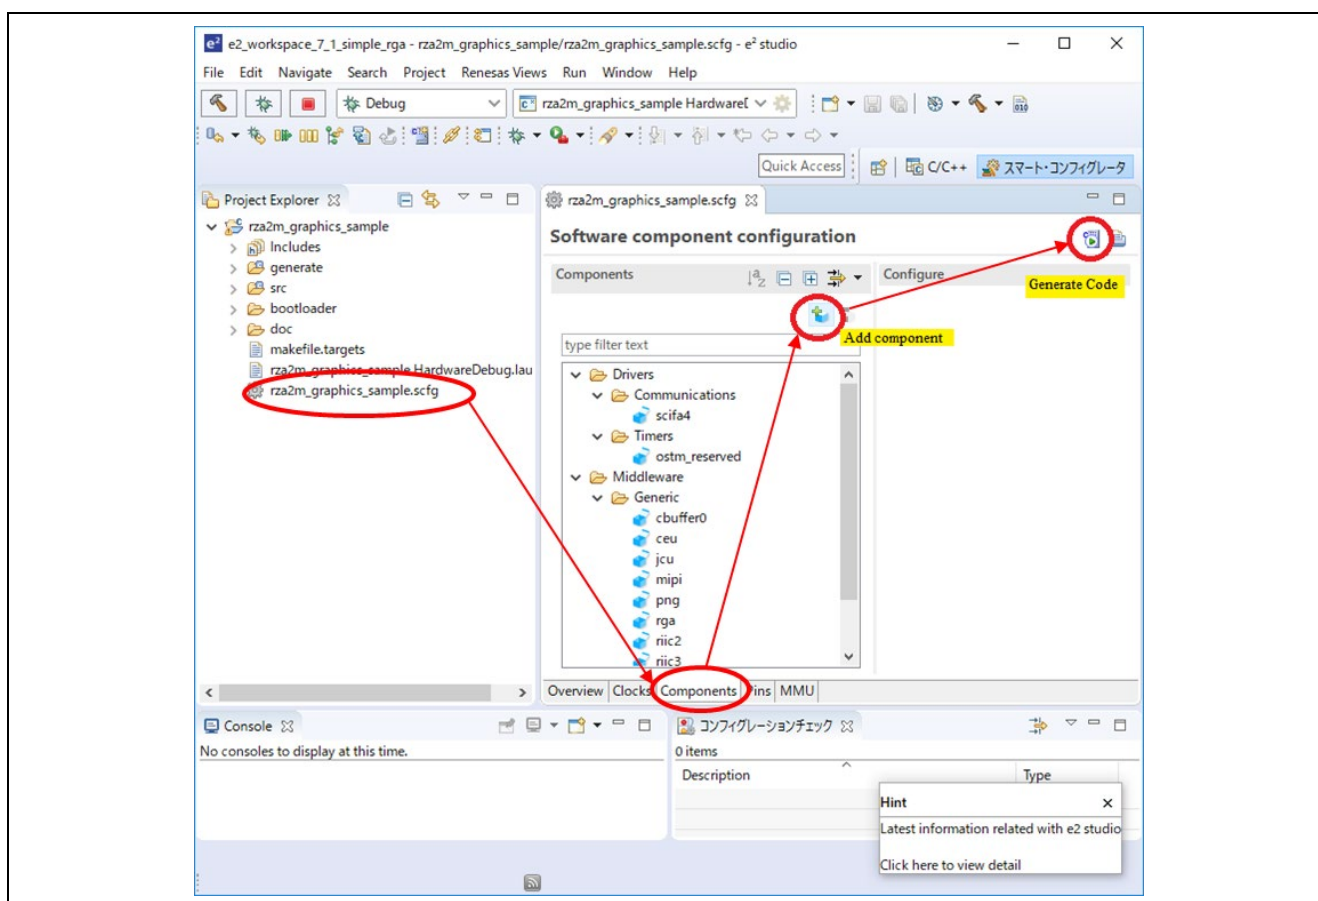

Figure 4-1 How to add components
- The steps above are shown in Figure 4-1.